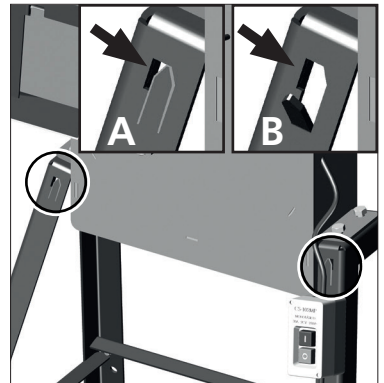

Fig. 06
There are small tabs (A) on the shredder frame, which you can pull out with a screwdriver so they can be used as hooks (B), to hang a bag from. Insert a screwdriver in the slit next to the tab and pull it out until the steel bends like a hook (B), [Fig. 06].